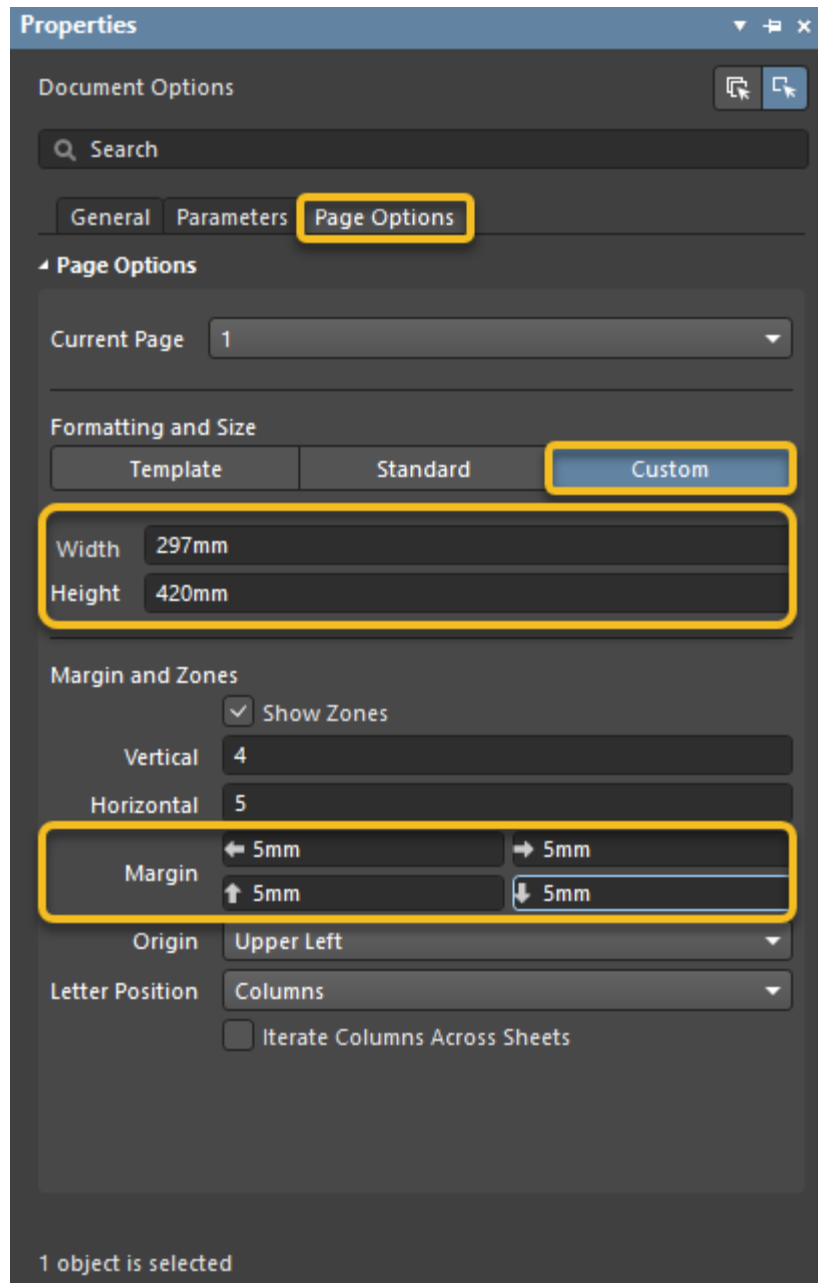

Figure 5. Setting the Draftsman document properties
16. Activate the tab *Page Options* in the *Properties* panel, Figure 5.